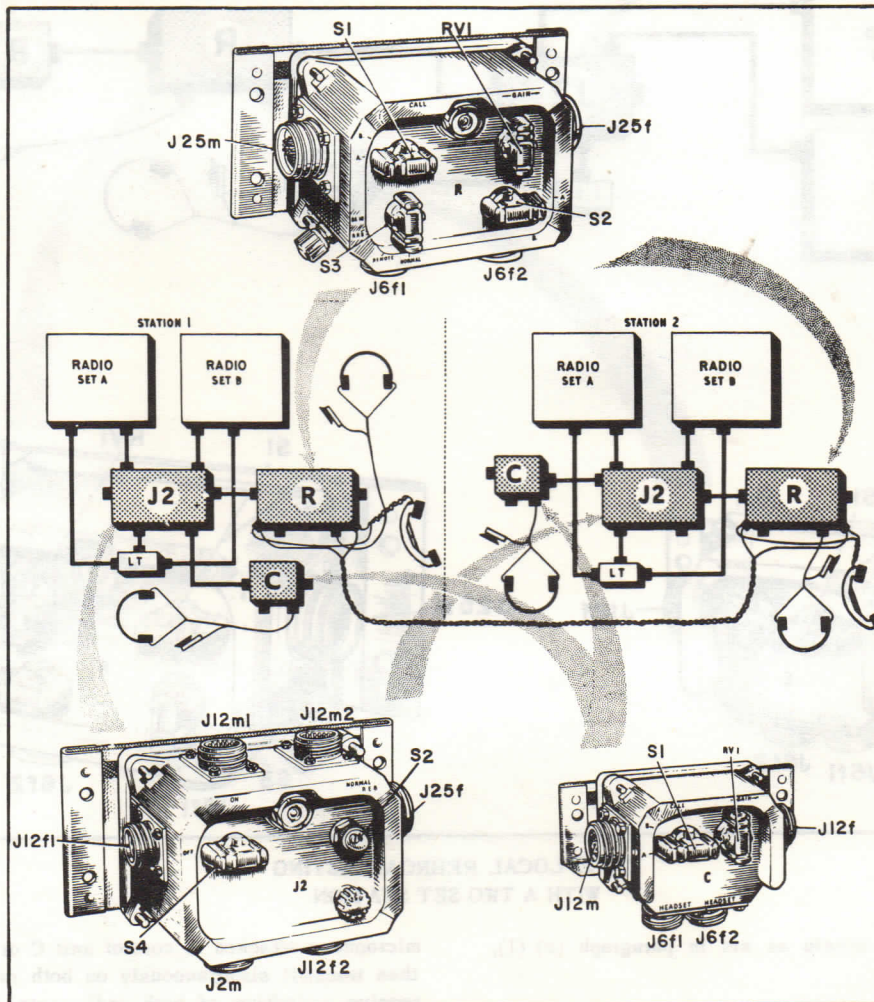

FIG 23 REMOTE REBROADCASTING WITH TWO SET STATIONS
23. Two stations, each similarly equipped as shown in Fig 23 and connected together by not more than 1000 yards of field telephone cable, provide remote rebroadcasting and
(1) Switch the harness on by turning switch S4 on box J2 to ON. Switch on the IC amplifier in set A as detailed in the Operating Instructions. The A set is the one connected to the top left hand plug on the J2 box.
(2) Referring to Fig 23, turn switches S1 on control units C and R to I. Turn switch S3 on unit R to NORM. On junction box J2 the screwdriver operated switch S2 is pre-set to NORM. Disregard switch S2 on both control units R. Intercommunication is now possible between operators at units C and R, within the same station. This setting of the switches electrically disconnects the remote control cable, and station 1 operators cannot speak to station 2 operators over the remote control cable. To call operators turn switch S1 on control unit C or R to CALL, then let it return to I.
(3) To enable operators at station 1 to communicate with those at station 2, turn switch S3 on both control units R to REM. To call operators turn switch S1 on control unit C or R to CALL, then let it return to I. Adjust the GAIN controls RV1.
(4) When setting up for remote rebroadcasting, an alternative method of intercommunication between the two stations can be provided by the use of two remote handsets. Having attached the remote control cable to the remote terminals on each unit R, connect a remote handset to the same terminals on each unit R as shown in Fig 23. At station 1 turn switch S1 on unit R to I, and S3 to REM. At station 2 turn switch S3 on unit R to NORM and disregard switch S1. This avoids the use of the IC amplifier at station 2. Station 1 can use a standard headset if required but only the remote handset can be used at station 2. Do not speak on the remote handsets with the switches at RRB or the conversation will be transmitted over the radio sets.
(1) Referring to Fig 23 turn switch S3 on both remote control units R to NORM to disconnect the remote control cable terminals. Turn switches S1 on control units C and R to position A or B according to which radio set is to be used. Set A is the one connected to the top left hand plug on box J2; set B is connected to the top right hand plug. On junction box J2 turn switch S4 to ON, and ensure that the screwdriver operated switch S2 is to NORM. Disregard switch S2 on both control units R. Tune the sets.
(2) Use the headsets and microphones attached to control units C and R. Adjust the GAIN controls RV1.
(1) Ensure that both radio sets to be used in the rebroadcasting link are VHF types with squelch circuits. Tune both radio sets and adjust the squelch circuits as instructed in the Operating Instructions. Automatic remote rebroadcasting is not possible with HF radio sets such as WS Cdn No 52.
(2) Refer to Fig 23. In station 1, turn switch S2 on remote control unit R to position A or B according to which radio set is to be used in the rebroadcasting link. Similarly select the radio set to be used in station 2 by means of switch S2 on remote control unit R in that station.
(3) In both stations, turn switch S3 on control unit R to RRB.
(4) Disregard switches S1 on control units C and R.
(5) When the selected radio sets are switched on, a two way automatic rebroadcast link is established. Signals received by station 1 are rebroadcast by station 2, and vice versa. When no signals are being received both sets remain in the receive condition, but when a signal is received at one set the other set is automatically switched to transmit.
(6) Do not operate pressel switches on headsets connected to a control unit switched to a set position, or rebroadcasting will be interrupted. By turning switches S1 to I, intercommunication is possible between operators within a station, but not between stations.